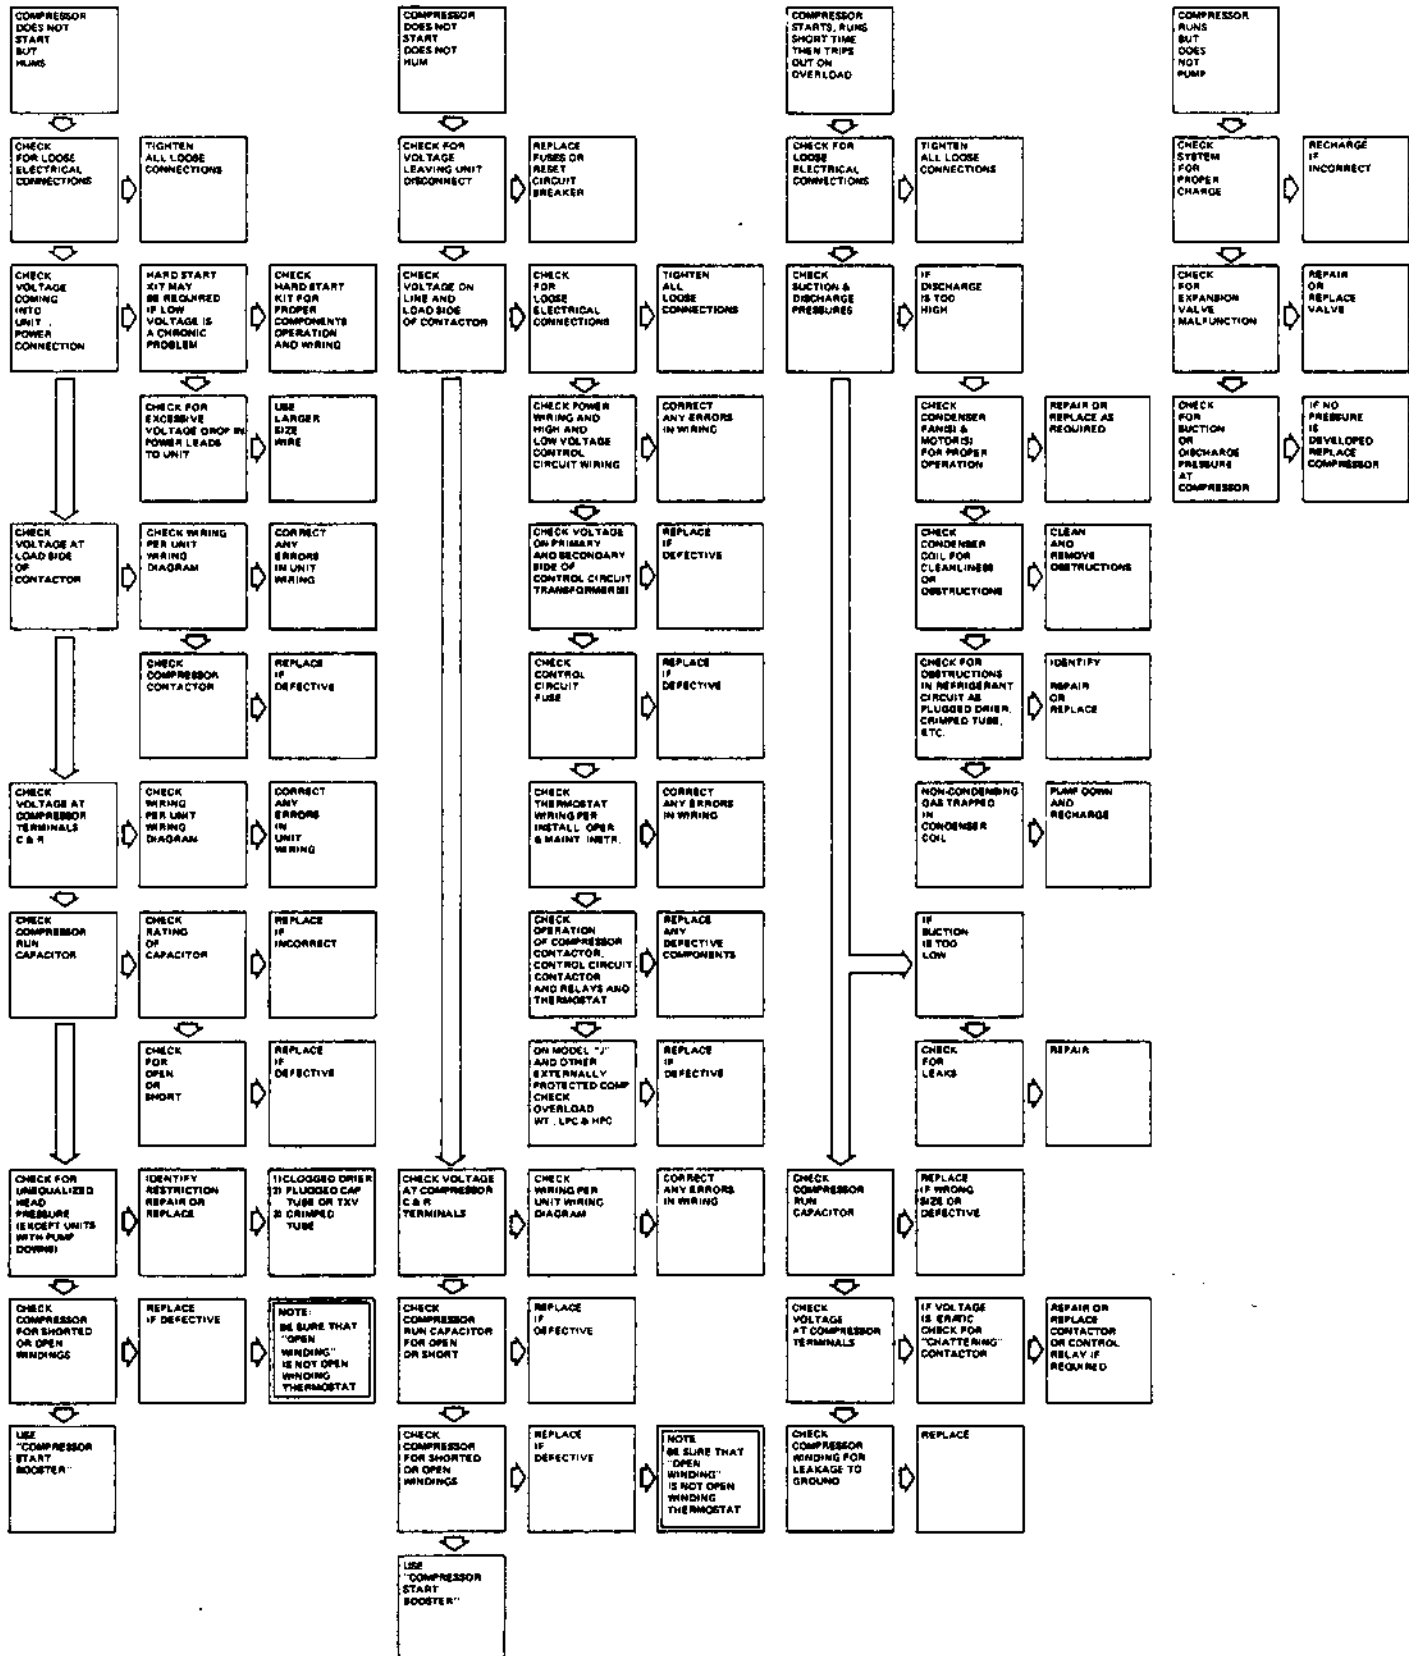
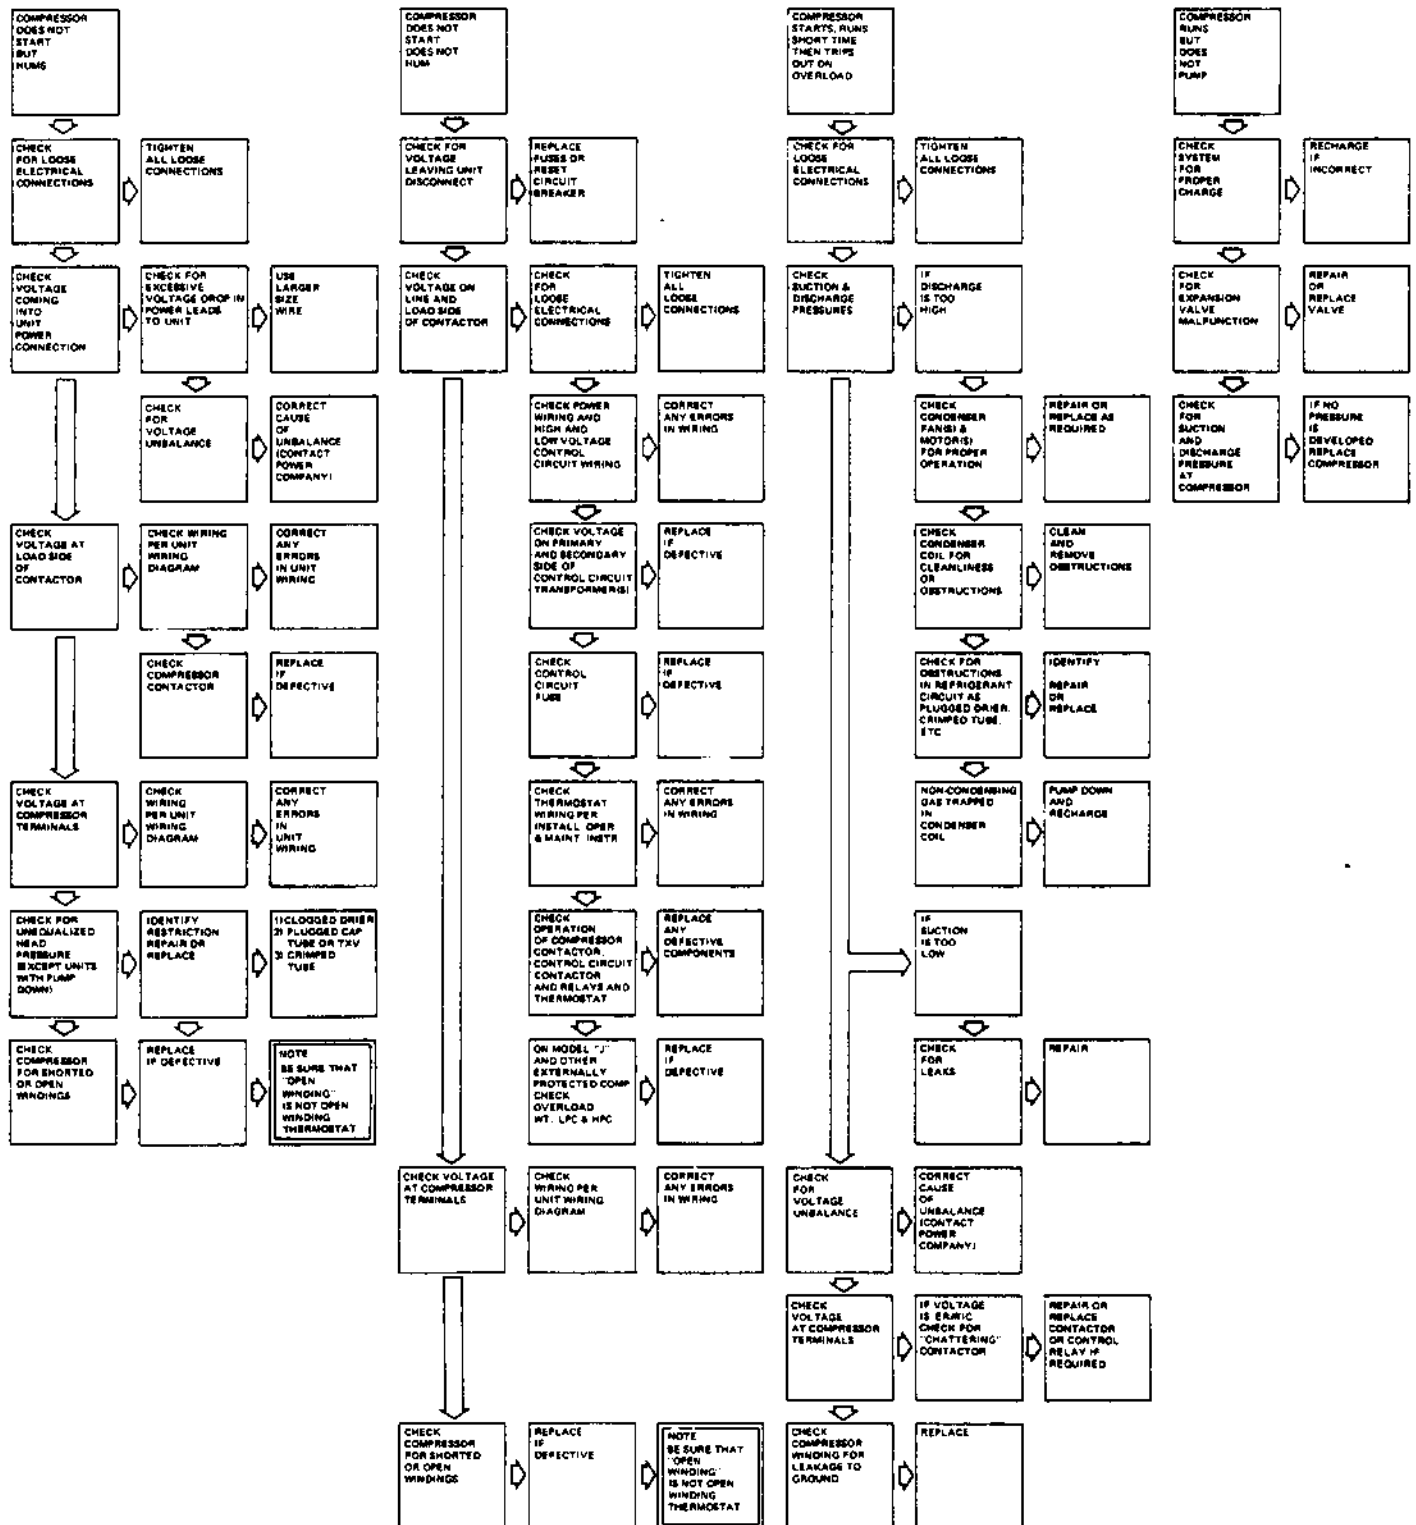

FIGURE 1 - System Fault Analysis
FIGURE 2 - System Fault Analysis
1. The first step is to determine if a failure has actually occurred. Anywhere from 20-30% of returned "failed" compressors show no visible sign of defect at factory teardown. Use the System Fault Analysis (See Figure 1 for Single Phase System and Figure 2 for the Three Phase Systems) to determine if the unit can be made operational without replacing the compressor. If a "good" compressor is replaced as defective, the fault which caused the initial compressor to be diagnosed a "failed" unit will also cause a similar diagnosis on the replacement compressor.
4. One of the prime causes of failure of single phase compressors is a hard start kit malfunction. First check the capacitor and relay to be sure they are correct for the compressor. Next, check the wiring against the unit wiring diagram. Then, check the relay to make sure the contacts close when the relay is de-energized. Apply 230 volts across the voltage relay coil (terminals #2-5). The switch from terminal 1 to terminal 2 should open. Inspect the contacts to make sure they are not welded together or excessively pitted. Inspect the start capacitor for evidence of overheating. Make sure the bleed resistor is in place and the relief diaphragm has not been ruptured. Check the capacitor with an ohmmeter as specified in the system fault analysis. (See Figure 1 and Item 14 following).
14. On single phase units, make sure the compressors' run capacitor is the correct size for the unit. Check the capacitor as outlined in the system fault analysis. See Figure 1.